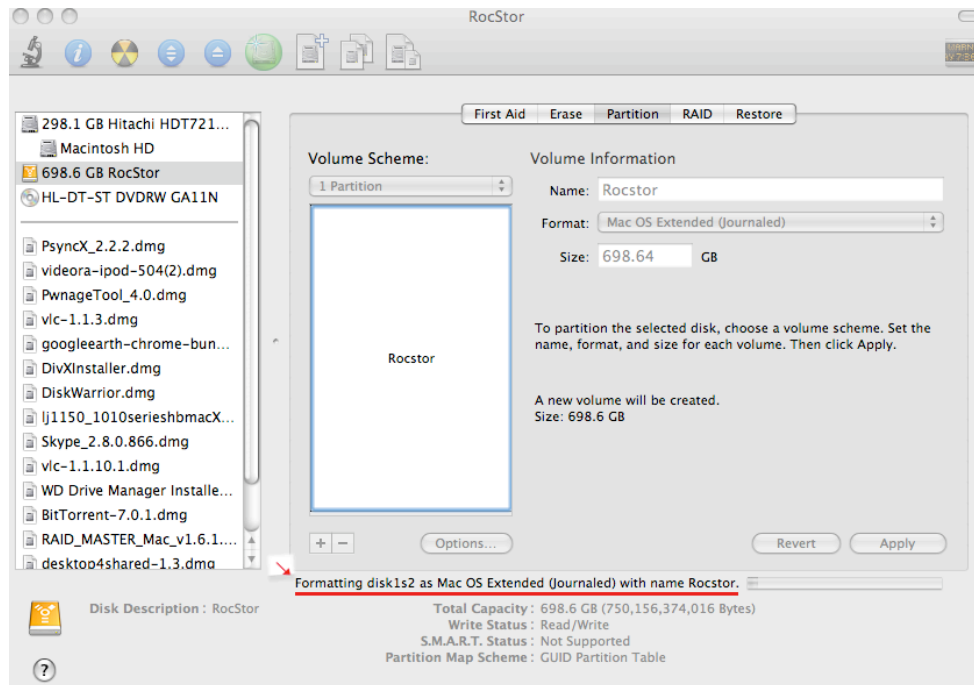
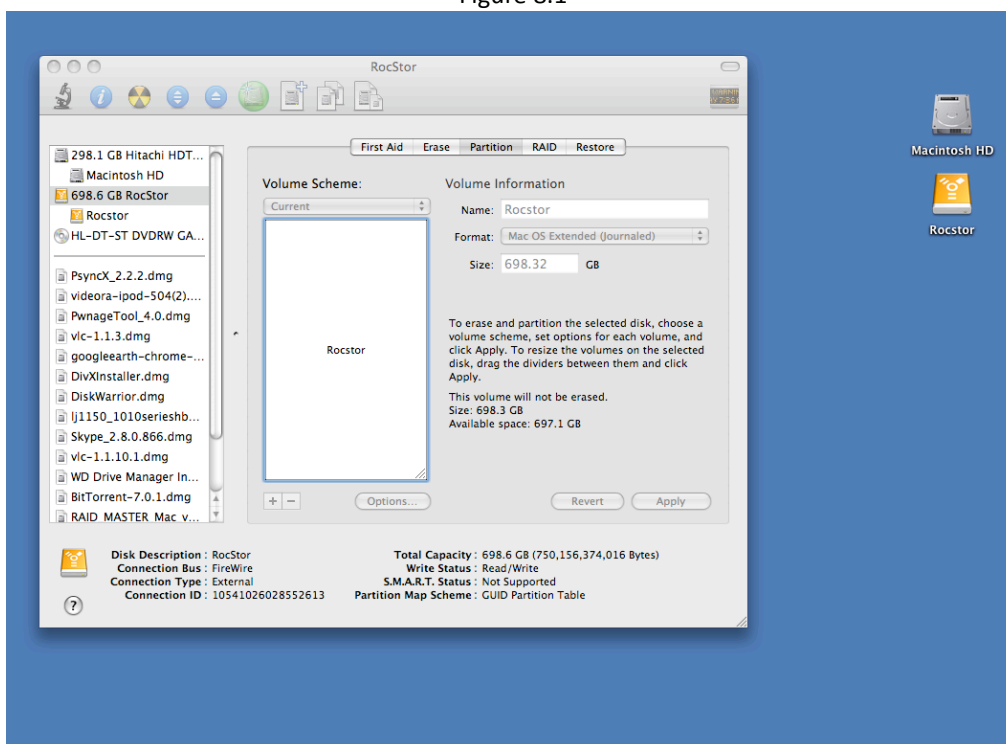

Figure 8.1
Figure 9.0
15. The drive will begin to format (figure 8.1) and upon completion; the same icon that first appeared on the Desktop will reappear with your designed name on the Desktop (figure 9.0)